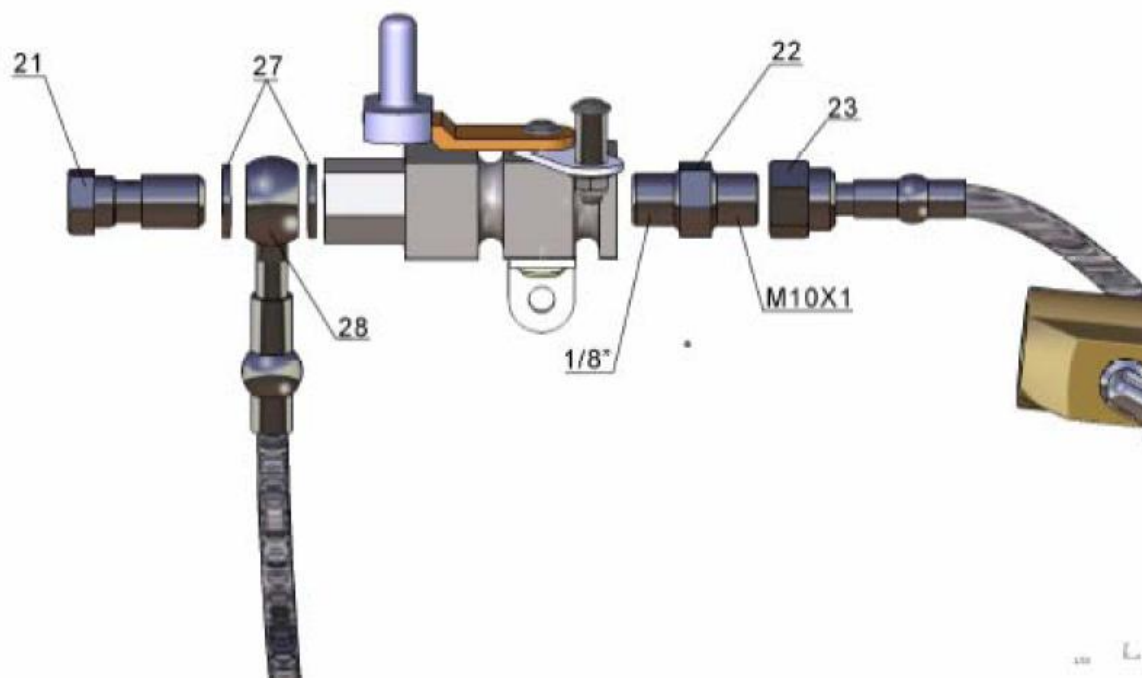
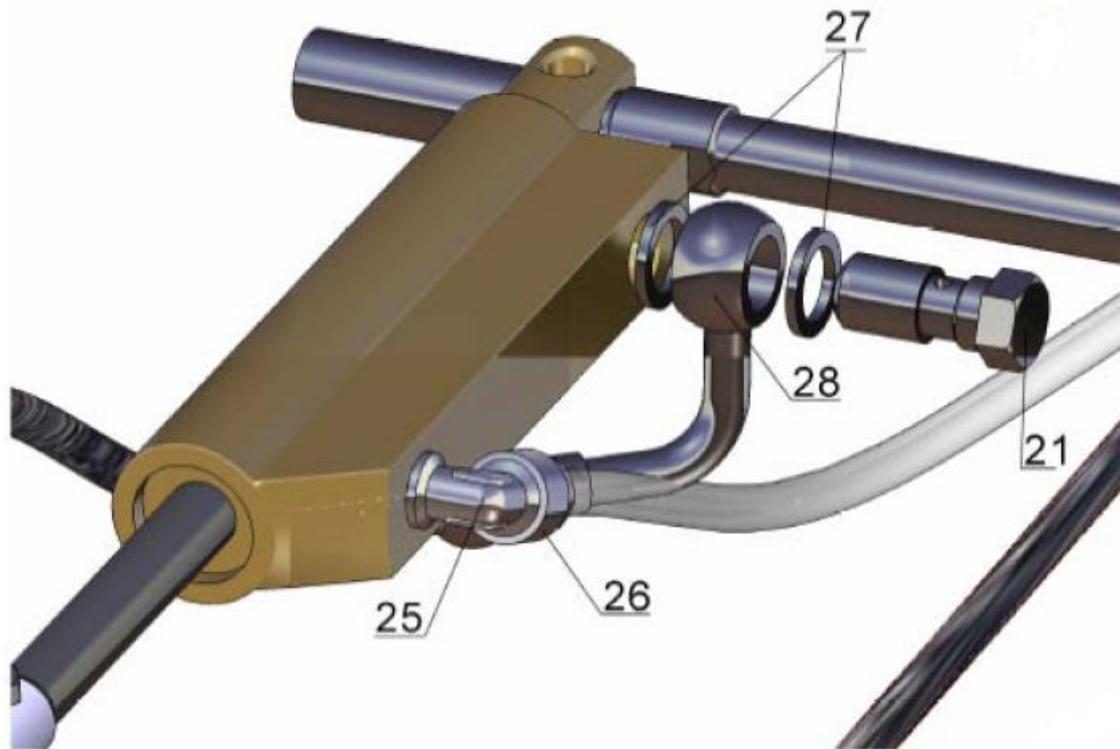

Fig 6
Fig 9
For assembling use only new Washers B22001AL item 27, Fig 9, fig 6